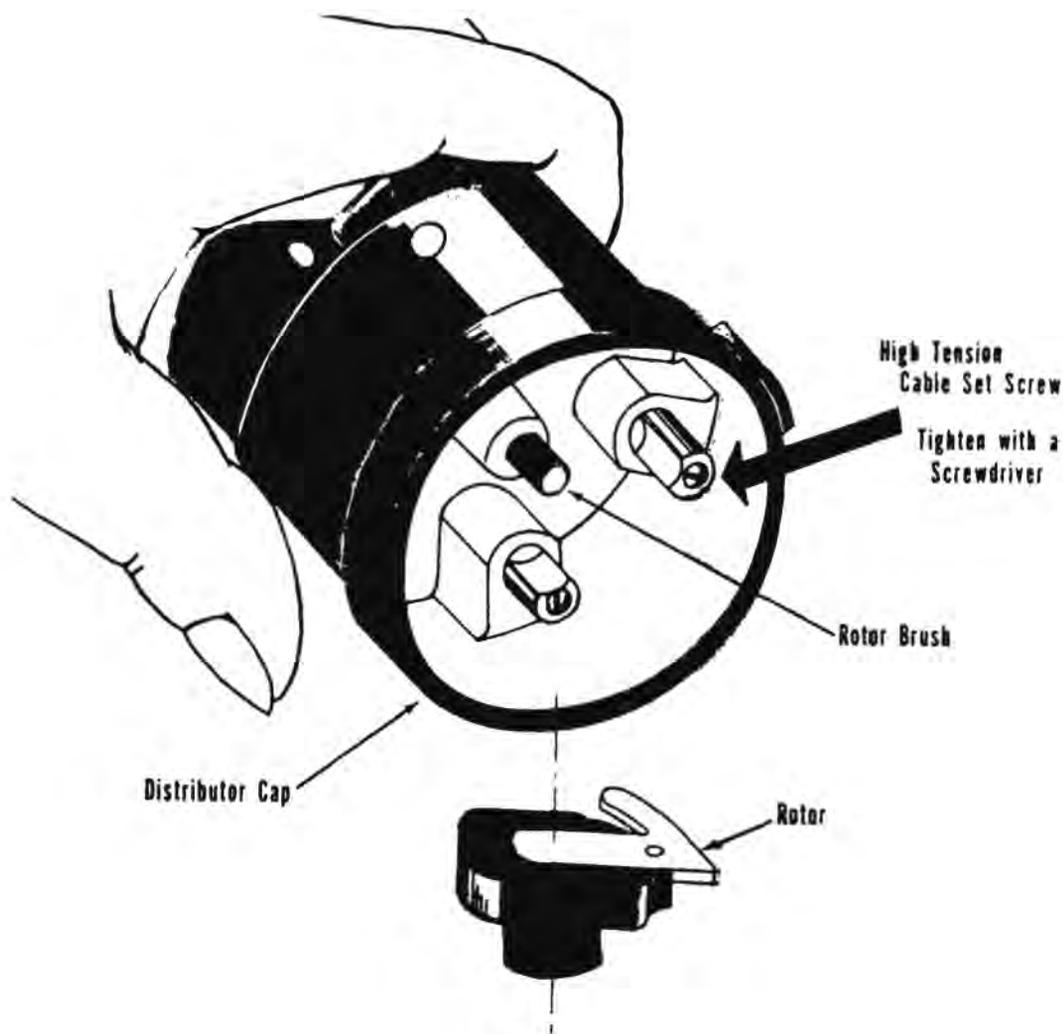

FIG. 25
2. Remove the distributor cap as shown in Figure 25. Clean the inside and outside of the cap with a dry cloth to remove all carbon or grease deposits.